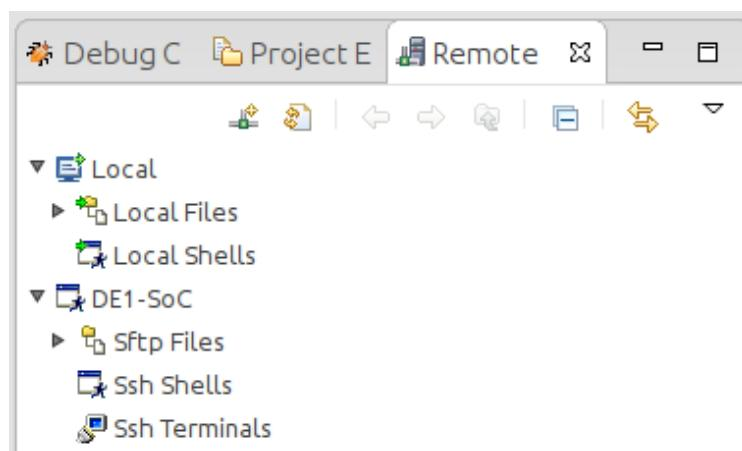

Figure 13-13. New SSH Connection In "Remote Systems" View
76. You should be able to see the remote system in ARM DS-5's "Remote Systems" view, as shown in Figure 13-13.